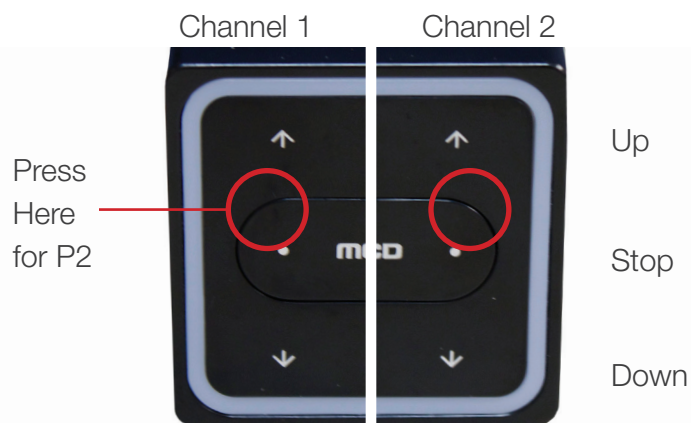

Fig. 1
3. Press and release P2 on the remote (shade will jog) see Fig. 1.